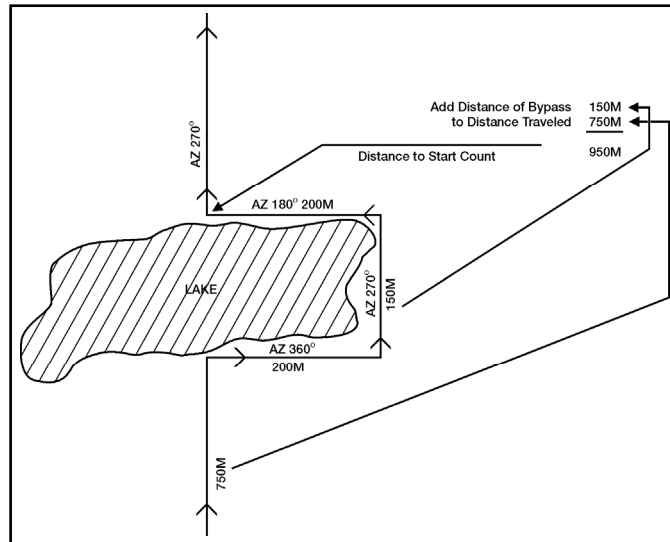

Figure 071-329-1006-6. Bypassing an obstacle
e. If you should encounter an obstacle, you might have to detour around it (figure 071-329-1006-6). To do this, complete a series of 90-degree turns until you bypass the obstacle and return to your original azimuth.